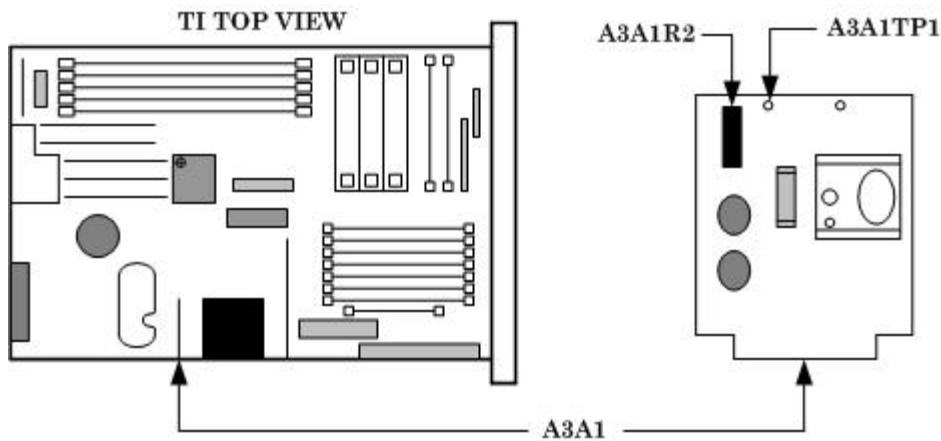

Figure 16. A3A1 card.
- (1) Connect digital multimeter to A3A1TP1 and chassis (fig. 16). If digital multimeter does not indicate between +21.98 and +22.02 V dc, perform **b** (1) below.
- (1) Adjust A3A1R2 (fig. 16) for an indication of +22.00 V dc on digital multimeter (R).